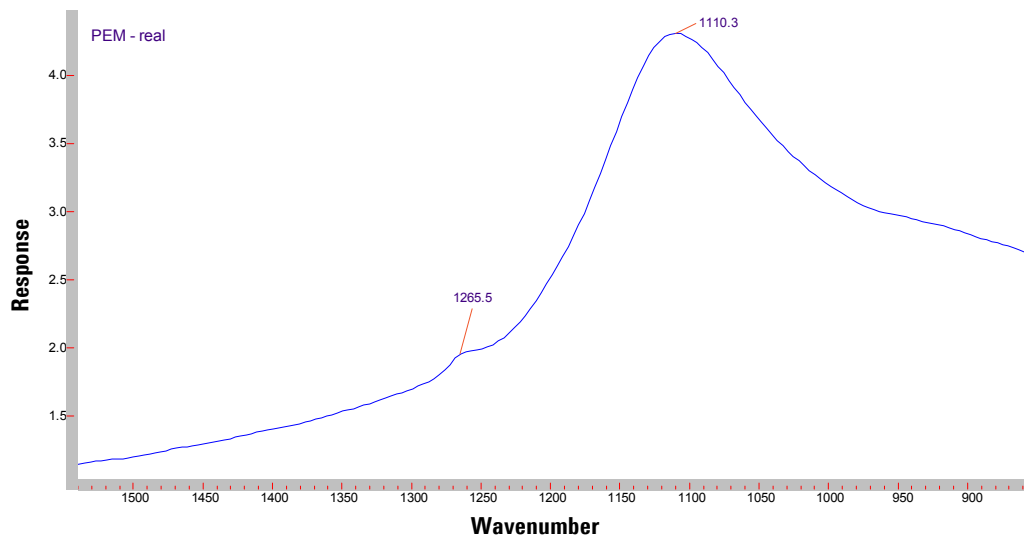

Figure 9. Ratio of AC spectrum ($I_p - I_s$) to DC spectrum ($I_p + I_s$)
- 14 Zoom in on Spectrum 5 between approximately 1500 and 900 cm^{-1} . The spectrum should look similar to Figure 9 with a large broad peak around $\sim 1110 \text{ cm}^{-1}$ and a weaker peak around $\sim 1265 \text{ cm}^{-1}$.
- 12** The resultant spectrum should look similar to that shown in Figure 9 on Page 31.